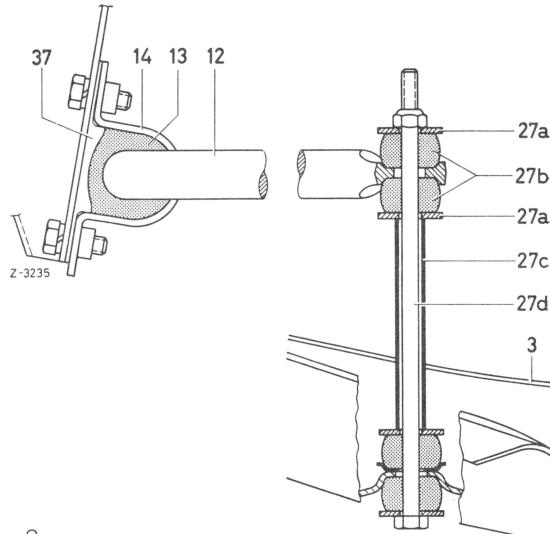

Fig. 3
3 Check rubber mounting of torsion bar bearing and rubber rings of connecting linkage (Fig. 3).
- 5 Attach torsion bar connecting linkage left and right to lower control arm (Fig. 3). Tighten hex. nut up to end of threads.